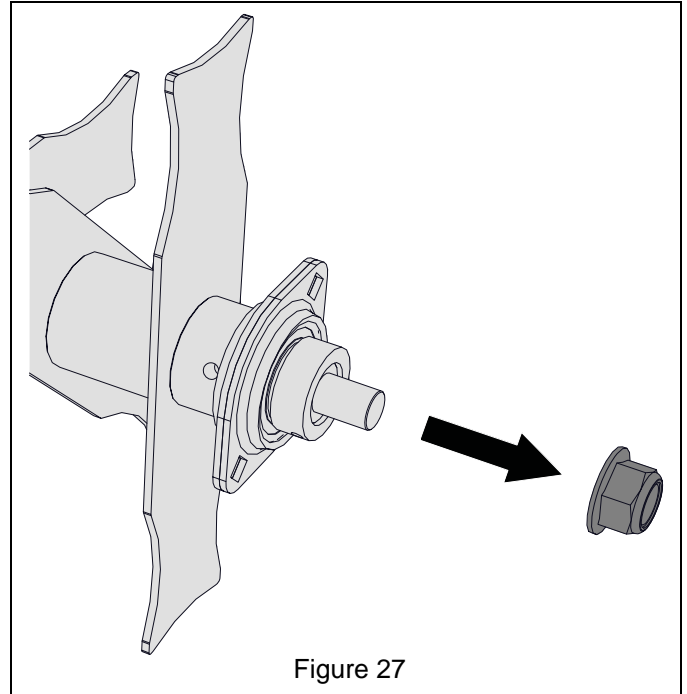

Figure 27
2. Remove and retain nyloc hex nut. See Figure 27.